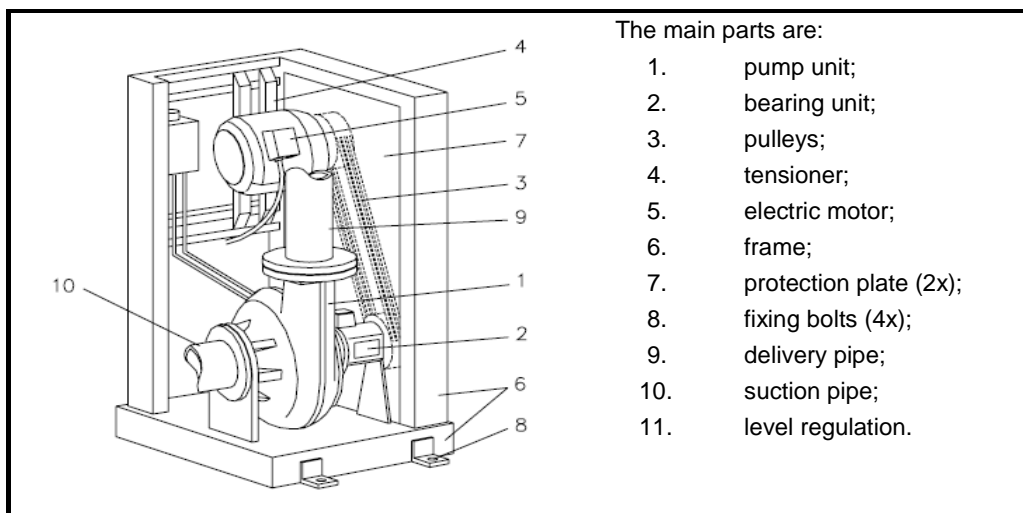

Fig. 7.7
V-belt driven with high placed motor and frame(see fig.7.7).
- Fixation of the base-plate to the floor, see fig. 7.7 pos. 8.